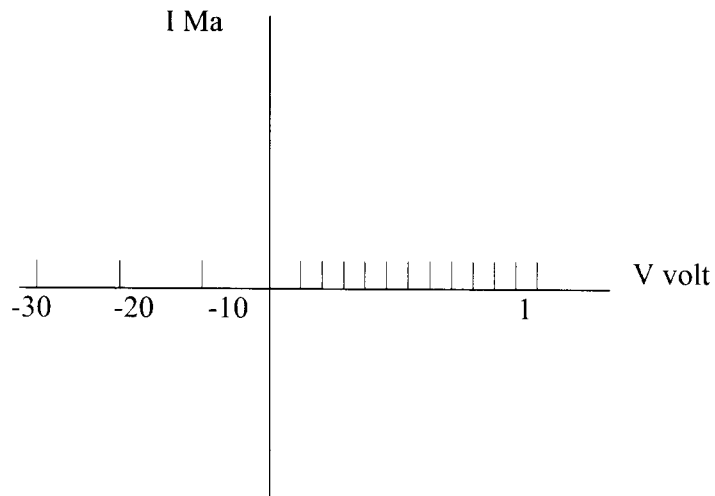

fig B03.7
- With the results obtained in this chapter, plot the voltage-current curves for both the germanium and silicon diodes (figure B03.7)